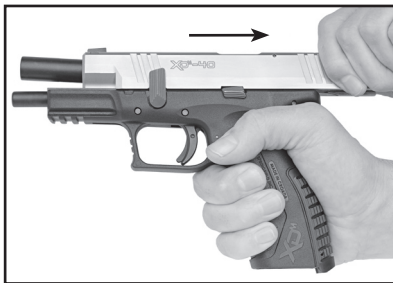

Figure 24-1
6. Firmly grip slide and pull to the rear to release the slide stop lever (See Figure 24-1.) Maintain firm grip on slide and allow the slide to slowly move forward until the spring tension is released.